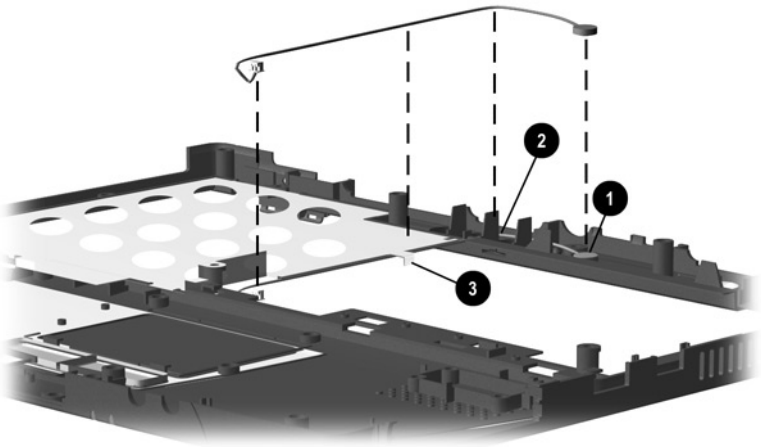

Figure 5-15. Removing the Microphone
3. Remove the microphone from the slot ❶ in which it rests in the top cover (Figure 5-15).
4. Remove the microphone cable from the top cover slot ❷ through which it is routed.
6. Remove the microphone cable from the clip ❸ in which it rests in the top cover shield.